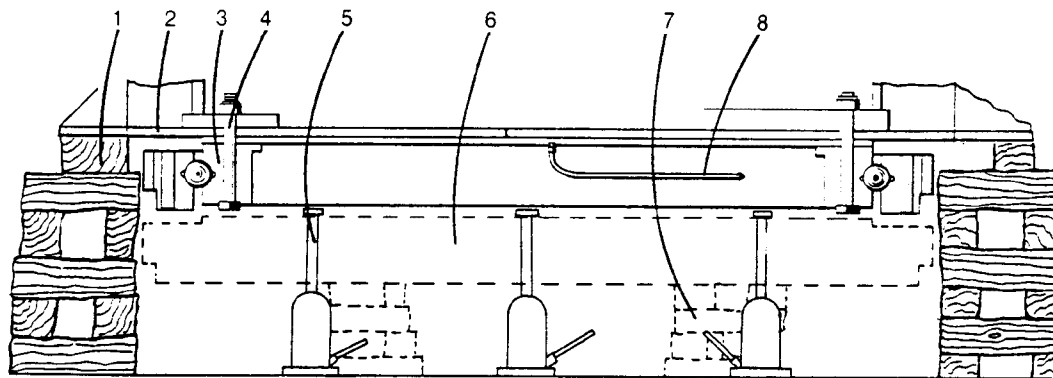

Fig. 3
the machine. Block on main frame, not the deck plates or supports. Use clean, dry, hard wood blocking. Stack in a criss cross manner as shown in Fig. 3.
- (c) The front drumshaft, and third drumshaft (if so equipped) must be removed for access to the nuts on capscrews (4 in Fig. 3), which hold bearing to upper. Refer to service manual for removal procedure.
- (e) Disconnect grease lines (8) from bearing.
- (g) Lower bearing, slowly, onto blocking, item (7) Fig. 3.